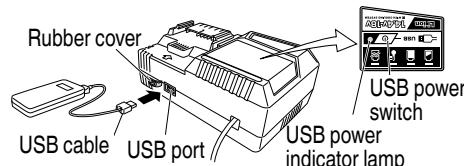

Fig. 14
- (2) Turn the USB power switch ON (Fig. 14)
- (3) Connect the USB cable. (Fig. 14)
- Turn the USB power switch OFF and unplug the power cord from the electrical outlet. (Fig. 14)